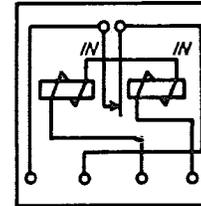

FIG 16 - WINDING AND SPRING TERMINAL ARRANGEMENT AS VIEWED FROM THE FRONT (CONTACT SIDE)-150 TYPE RELAY
2.14 As viewed from the front of the relay the contact spring is indicated by 1 and the armature by 2. The winding terminal designations as viewed from the front of the relay are shown in Fig. 16.